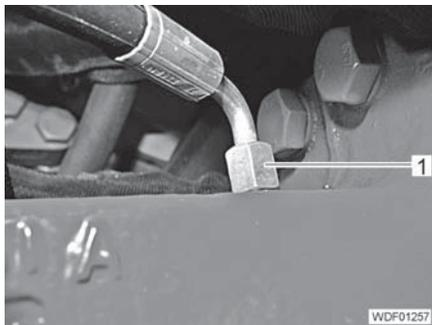

Fig. 258 Hydraulic line of the differential lock
- Screw the hydraulic line of the differential lock (Fig. 258,1) onto the connection on the axle bracket and tighten.